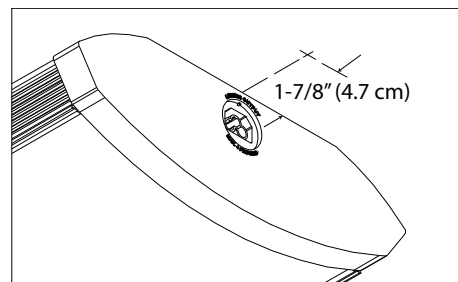

Figure 5
11) To remove plug cover (9)- gently insert flat blade screwdriver into slot on either side of cover. Gently pry upward on plug to remove.
12) Insert Row Connector (13) into installed fixture until fully installed.
14) To mark location for first mounting screw- From the end of the installed fixture, measure 1-7/8" (4.7cm) and mark point on ceiling that is on center with installed fixture.- See Fig 5